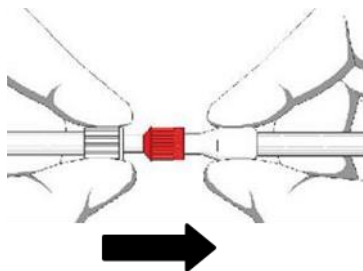

Figure 1a: Fistula Needle Connection: Insertion Technique.
1. Firmly insert the male luer of the bloodline into the female luer of the fistula needle. See figure 1a